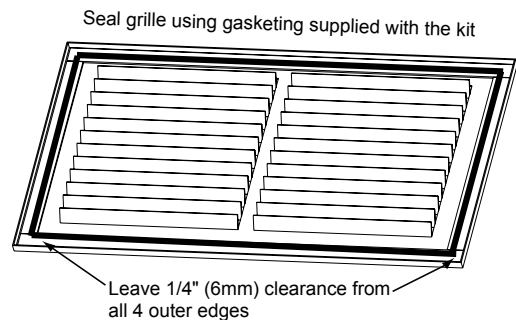

Figure 7
9. Seal all the way around the inside of the Return Air Grille to prevent hot air being drawn back into the venting system using gasketing supplied with the kit. Leave 1/4" (6mm) clearance from all 4 outer edges. Trim excess gasketing. See Figure 7.